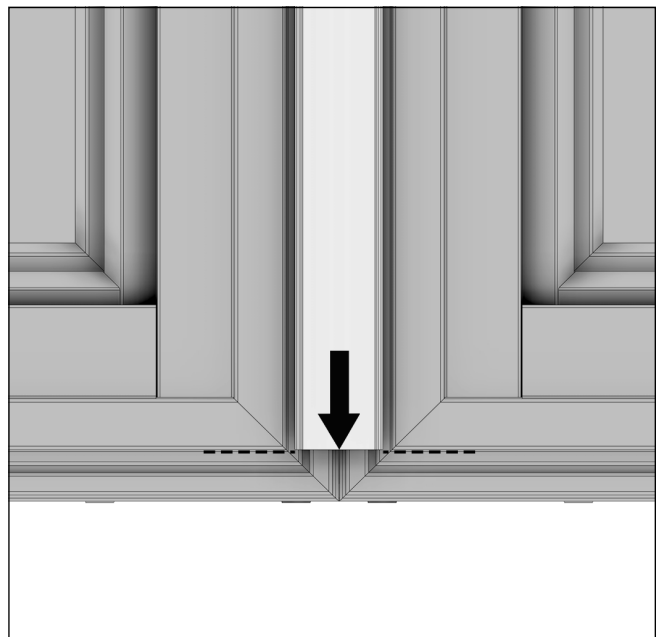
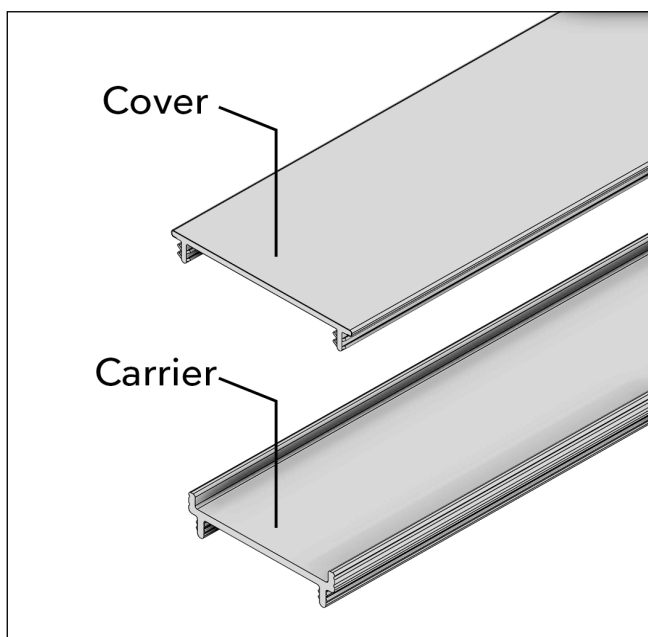

Figure 36 Attach interior mull carrier
Figure 37 Attach interior mull carrier
7. Remove clamps and attach interior mull carrier. Align the carrier 1/2" from the edge of the drywall return. See Figure 36 and Figure 37.